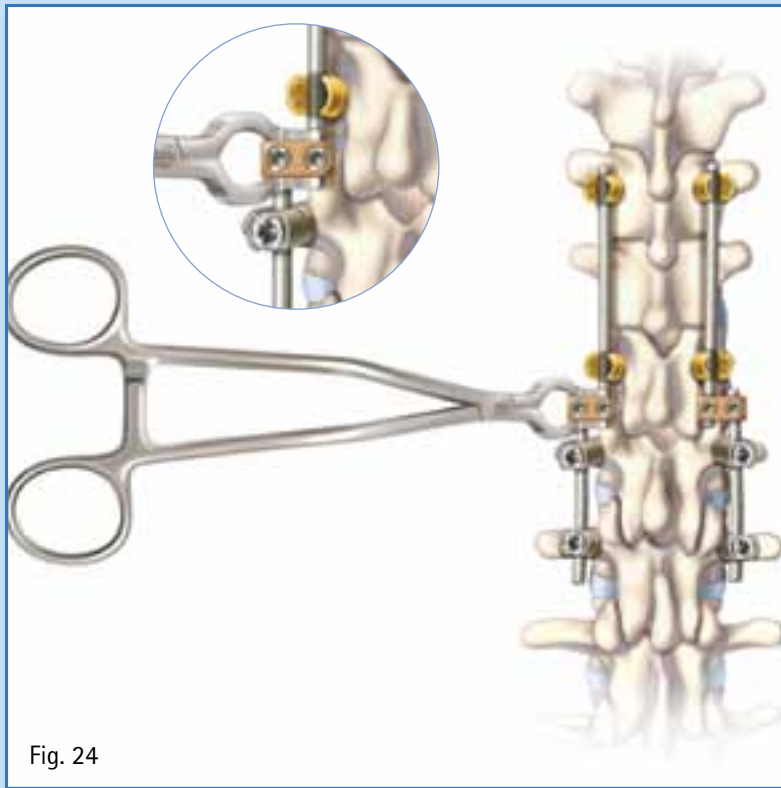

Fig. 24
- For open/closed style, use the rod-to-rod connector inserter (FW493R) to grab the connector and slide a rod into the closed hole and then connect to the other rod using the open hole. (Fig. 24)